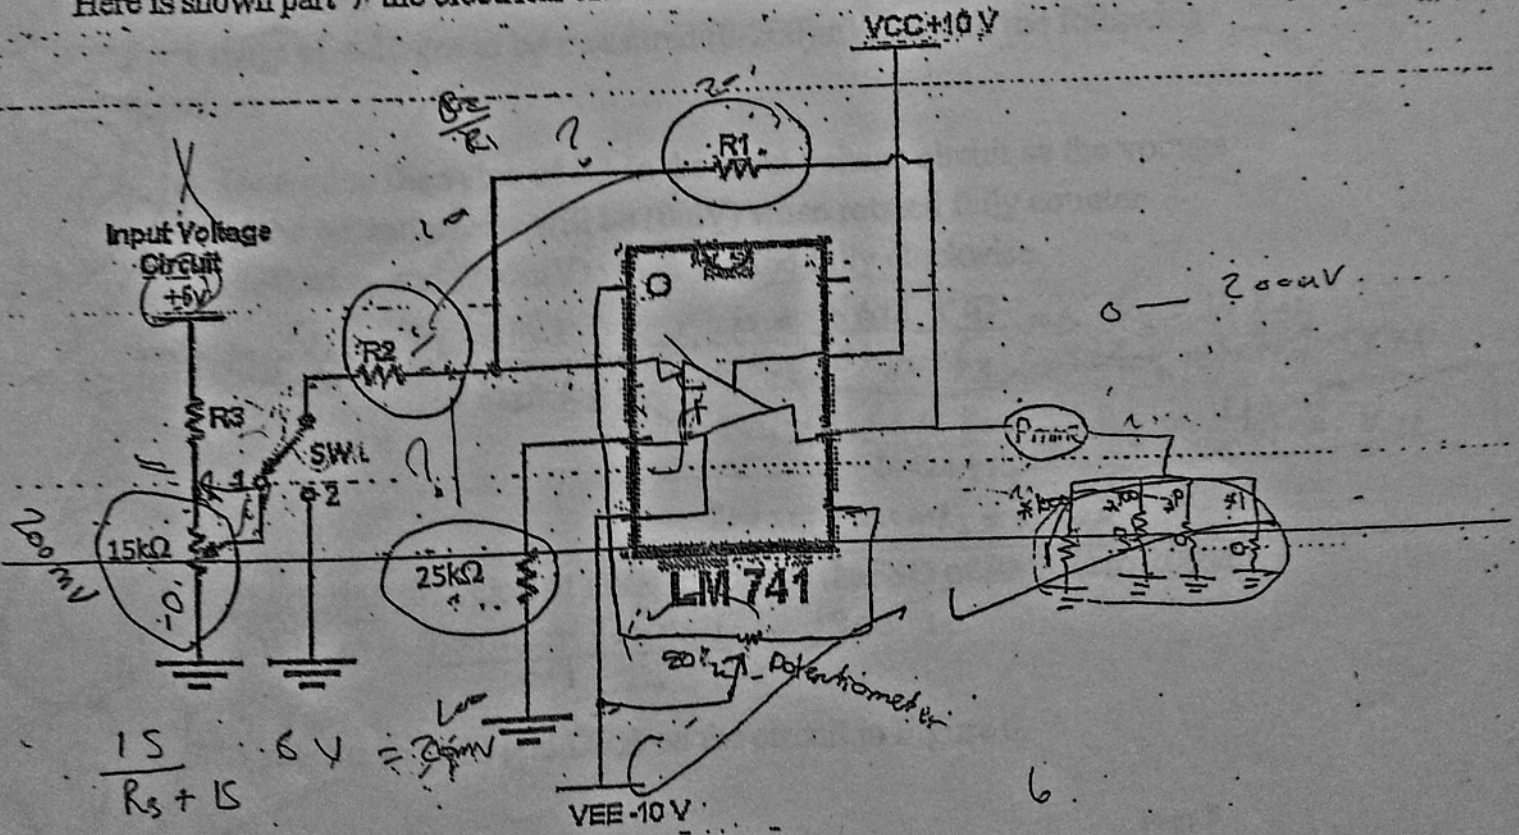

Figure 6.
2. Draw the connection of the 20kΩ potentiometer on the circuit in Figure 6, in order to do the offset null adjustment.
8. Draw the PMMC and DRB on the circuit in Figure 6.